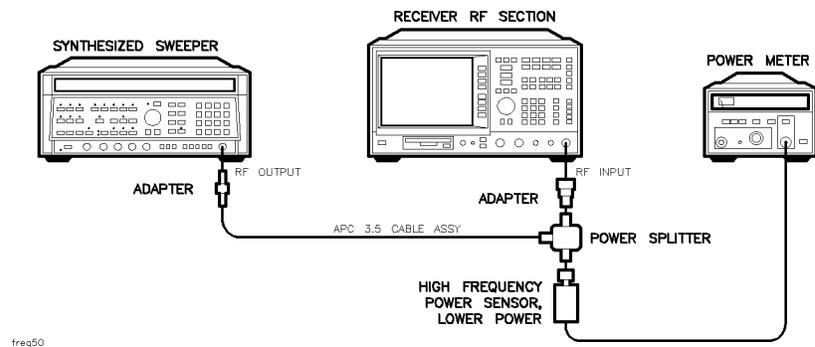

Figure 2-15. Frequency Response Test Setup, ≥ 50 MHz
2. Connect the equipment as shown in Figure 2-15.